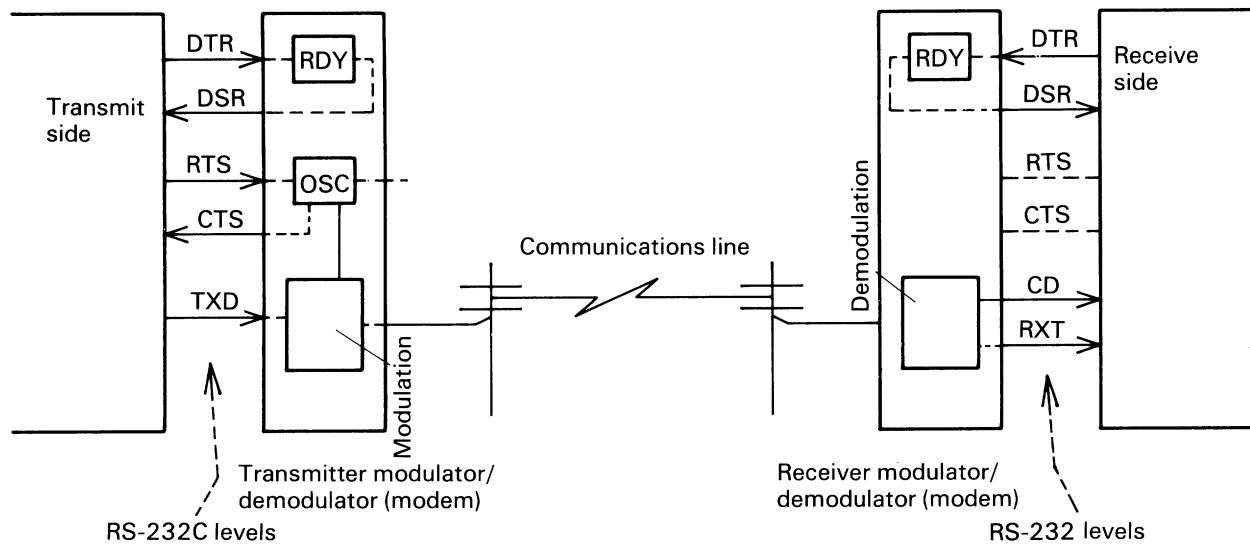

Fig. 2-108
The carrier, arriving over the communications line, is detected in the receiver modem after passing through a hand-pass filter. This state is informed to the receiver interface via the Carrier Detect (CD) signal. The interface assumes the Ready-to-Receiver state and the subsequently arriving data is demodulated by the modem and is read by the receiver interface. Fig. 2-108 illustrates the signal flow, including flow over the communications line.